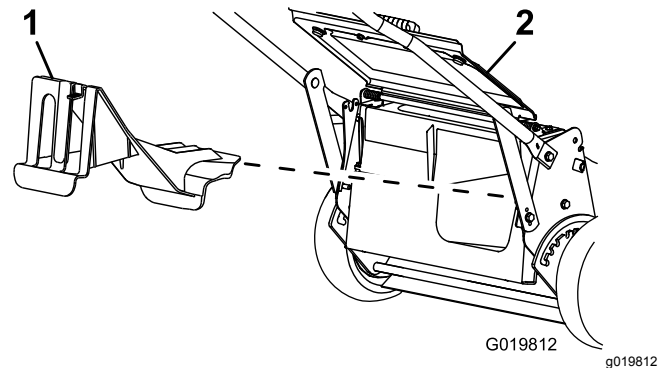

Figure 22
- If the rear-discharge plug is not installed, grip it by the handle, raise the rear deflector, and insert it into the rear-discharge chute until the latch locks into place; refer to Figure 22.
2. Remove the rear-discharge plug by pulling down on the latch with your thumb and pulling the plug out from the machine (Figure 22).